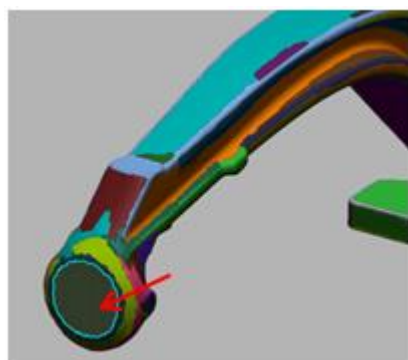

Figure 287
6. Select the region like **Figure 287**.